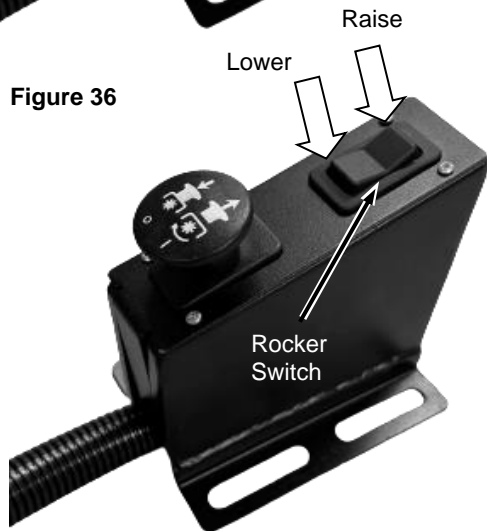
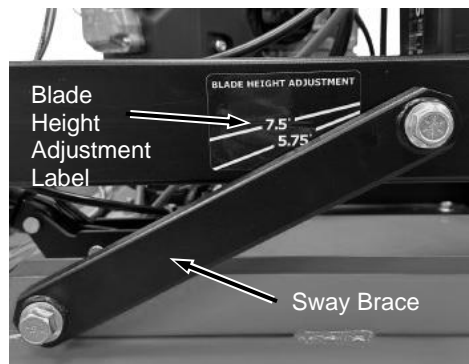

Figure 37
Figure 38
1. To lower cutting Height of Mower, press “Lower” on Rocker Switch (**Figure 37**) until Sway Brace is aligned with desired cutting height lines on Height Adjust label (**Figure 38**).
When performing offset mowing, always be sure that the Tow Bar offset, and the Tow Bar Extension offset match (Figure 38). This ensures the DR TOW-BEHIND FIELD and BRUSH MOWER will track parallel to the tow vehicle path.